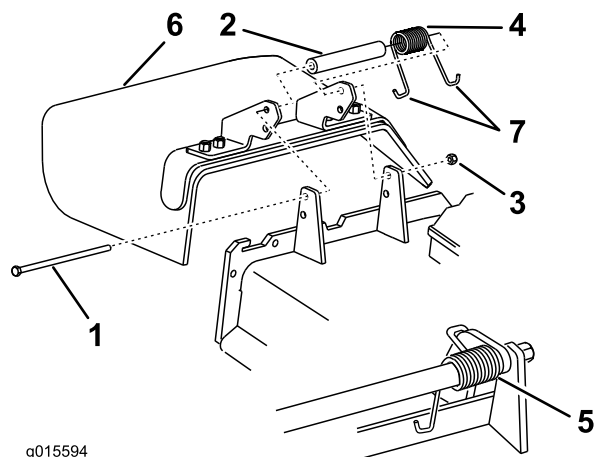

Figure 97
1. Remove the locknut, bolt, spring and spacer holding the deflector to the pivot brackets (Figure 97). Remove damaged or worn grass deflector.
Note: Make sure one **J** end of spring is installed behind deck edge before installing the bolt as shown in Figure 97.
3. Install bolt and nut. Place one **J** hook end of spring around grass deflector (Figure 97).